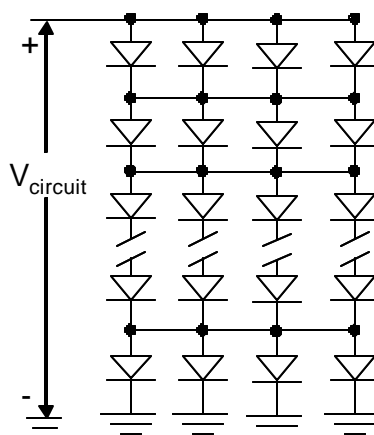

*Figure 54. Modification to WPS#6 signal circuit board.*
Modification of this signal to deactivate individual LED elements was difficult and ultimately not successful. The high-intensity LED “chips” use surface mount technology which is less amenable to modification since the entire circuit appears on only one side of the circuit board. This particular signal uses a pre-packaged circuit board which contains the 18 high-intensity LED chips. Two additional circuit boards were purchased from LumiLeds and were modified as shown in Figure 54. Unfortunately, the WPS#6 signal did not work correctly after the open-circuit modifications. A component on the power supply for the circuit board (most likely a capacitor) failed and rendered the entire unit inoperable. Due to the very small number of LED elements (18), successful testing with non-operable elements would have been difficult at best. No further testing with the WPS#6 signal was conducted.